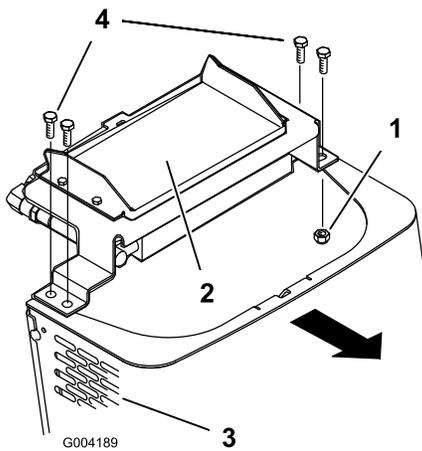

Figure 31
6. Remove the shoulder bolts and nuts securing the oil cooler to the top of the front screen (Figure 31).